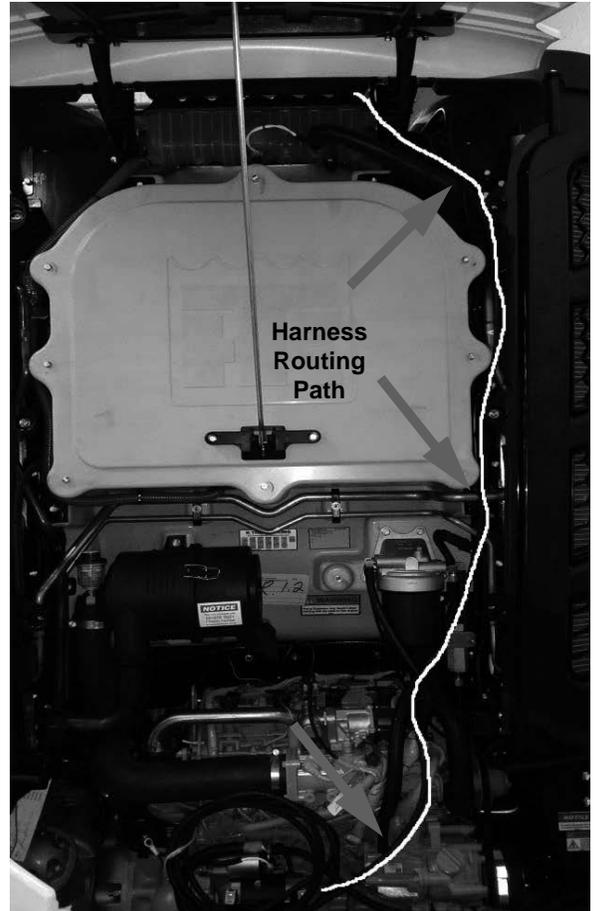

Figure 5
6. Route the harness down the roadside wall next to the condenser wall and under the fuel filter over to the starter (**Figure 5**). Ensure that the harness does not touch hot copper lines and that it is properly secured to other harnesses or to a solid structure. **IMPORTANT: Do not attach wiring harnesses to the fuel lines.**